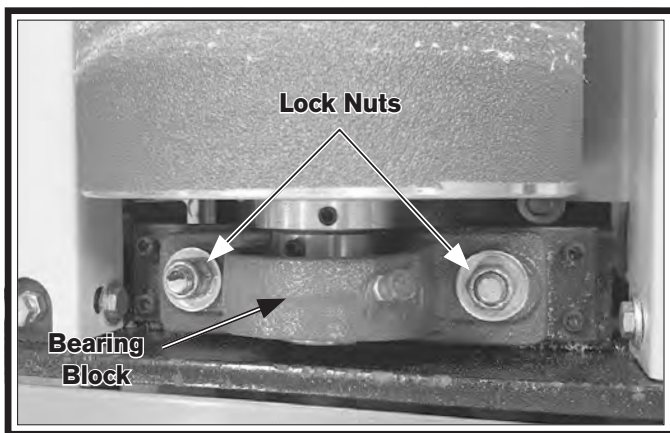

Figure 39. Bearing block lock nut location.
4. Loosen lock nuts on bearing blocks (see Figure 39).